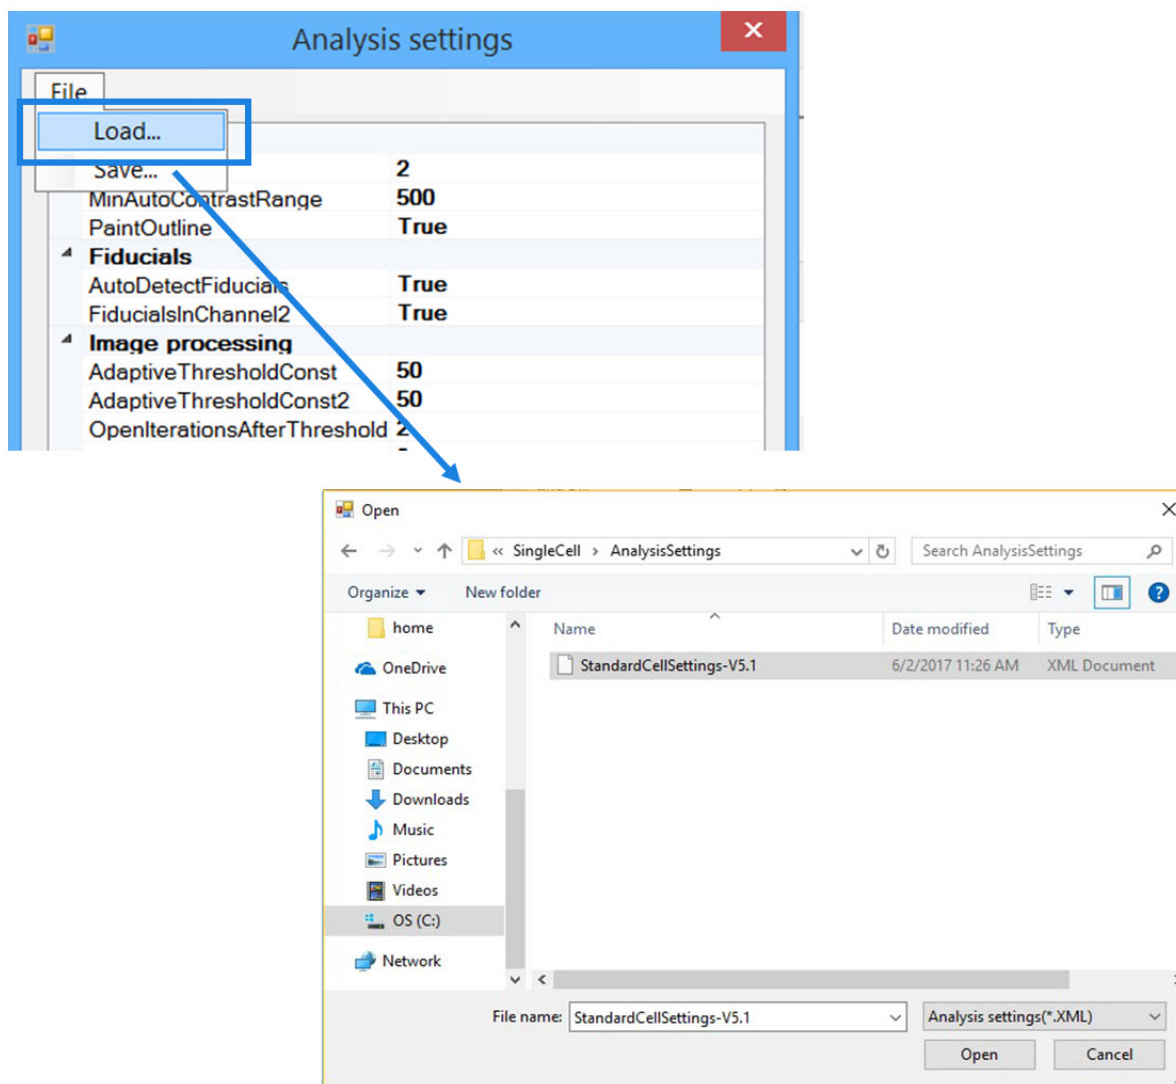

Figure 35. Loading/reloading the settings file for single-cell analysis.
1. Click **File** and select **Load** (see Figure 35, below).